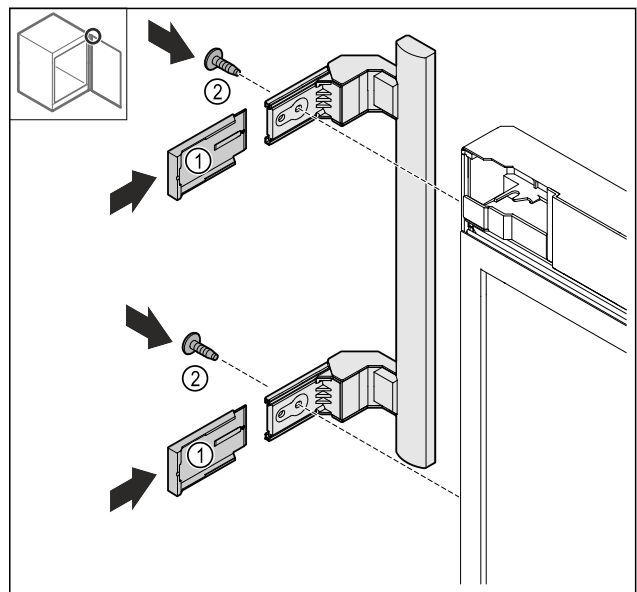

Fig. 20
- Slide on the Fig. 20 (1) covers.